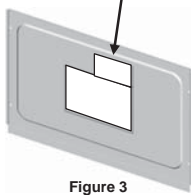

Figure 3
(5) Attach the label (enclosed part ⑤), which has the cautionary notes on replacing the circuit board, to the control box cover. (Figure 3)
(6) Wrap the pipe on the unit with the pipe cover (enclosed part ⑦) and fix it in place with a band (enclosed part ⑥) to protect it from coming in contact with the unit as necessary (refer to the figure at right).
(7) Replace the top panel, bottom panel, and the control box cover.